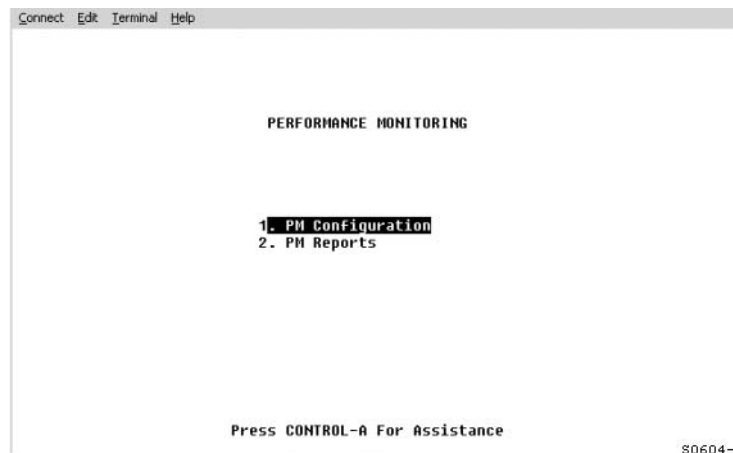

Figure 9. Performance Monitoring Menu
- 2 From the SCU Main Menu, use the arrow or number keys to select **Performance Monitoring**. Press **ENTER** if using the arrow keys. The Performance Monitoring menu appears (see Figure 9).